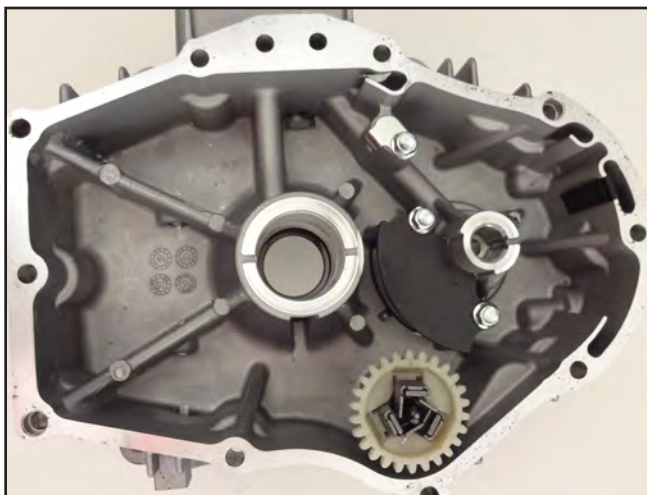

Figure 15
5. Insert the remaining components onto the sump cover (if removed) (Figure 15).